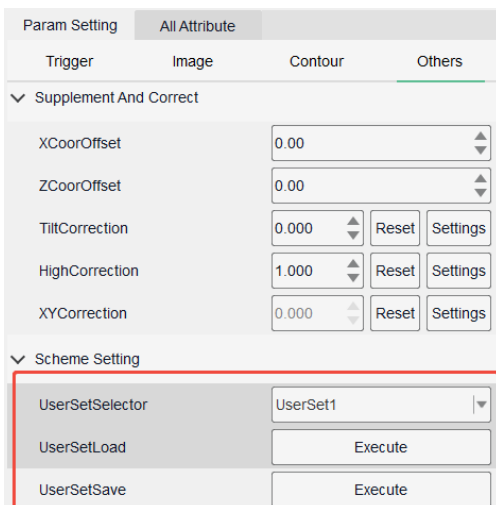

Figure 3.1.15 Scheme Settings
- Parameter Selection: Save and load backup settings for all properties on the current device layer. Settings remain effective after restart. As shown in Figure 3.1.15.